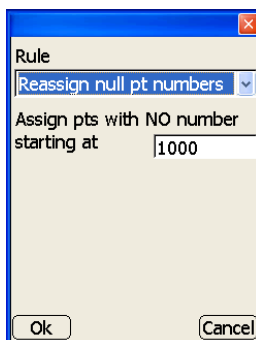

Figure 3-20. Add Export Rule
- **Add** – on the *Export rules* tab, press **Add** to add an export rule and it's respective information, then press **Ok** to save the information (Figure 3-20).